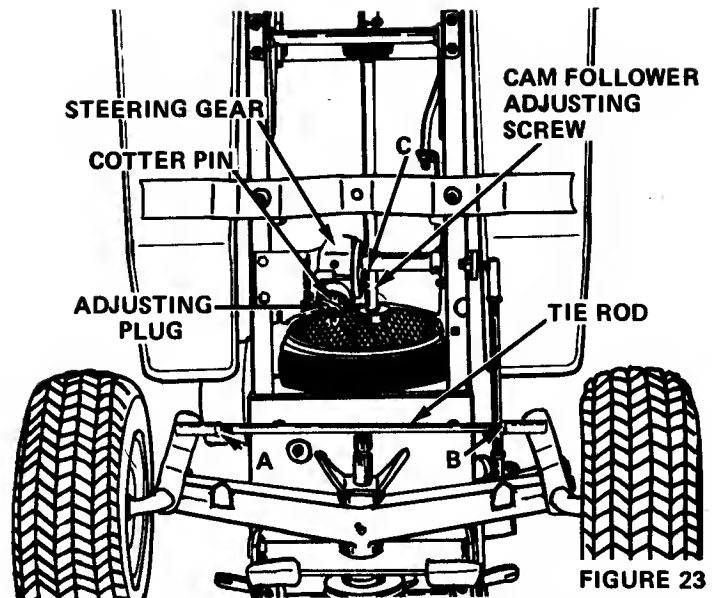

FIGURE 23
1. Loosen jam nuts A and B, Figure 23.
2. Remove cotter pin identified in Figure 23.
3. Loosen jam nut C, Figure 23 and turn adjusting screw out (counter-clockwise) $1\frac{1}{2}$ turns.
4. Tighten adjusting plug, Figure 23, to 10-14 ft. lbs. of torque.
6. Hold jam nut and turn adjusting screw, Figure 23, clockwise (in) until backlash is removed from steering wheel. **DO NOT FORCE ADJUSTING SCREW.** Torque jam nuts 35-45 ft. lbs. while holding adjusting screw in position.